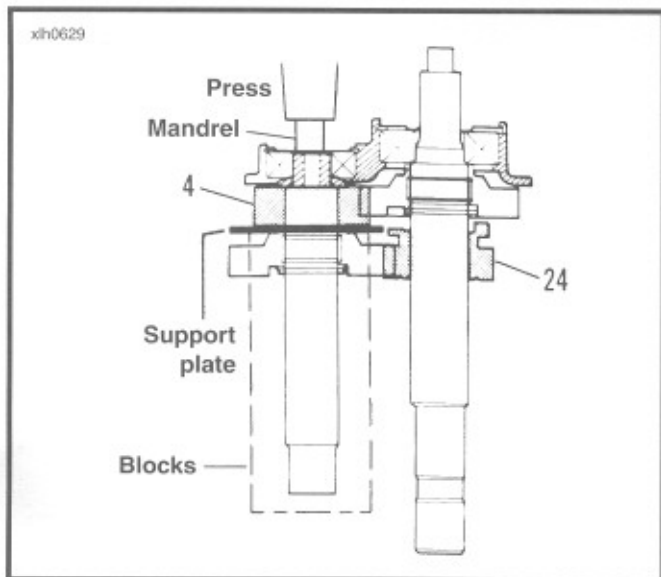

Figure 6-33.
8. See Figure 6-33. Place COUNTERSHAFT GEAR SUPPORT PLATE (Part No. HD-37404) under countershaft 4th gear (4). Place assembly on press with suitable metal blocks under the support plate. Place a socket or mandrel, smaller than inside diameter of bearing, and press countershaft free of access cover. Slide mainshaft 1st gear (24) off mainshaft.